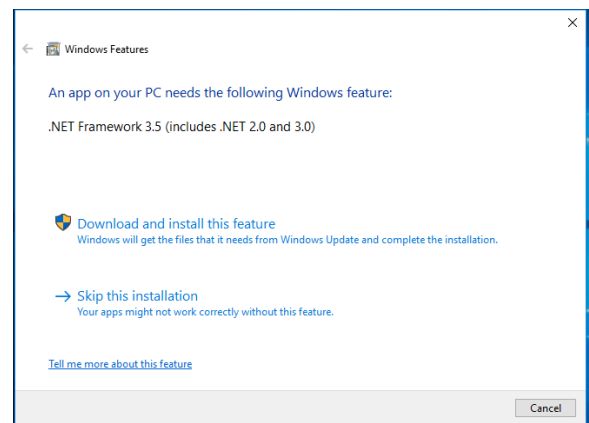

Figure 14. Windows 8/10. **.NET Framework 3.5** Installation
- When the **Eval+ Dependencies** installer reaches the **.NET Framework 3.5**, the window shown in Figure 14 appears.